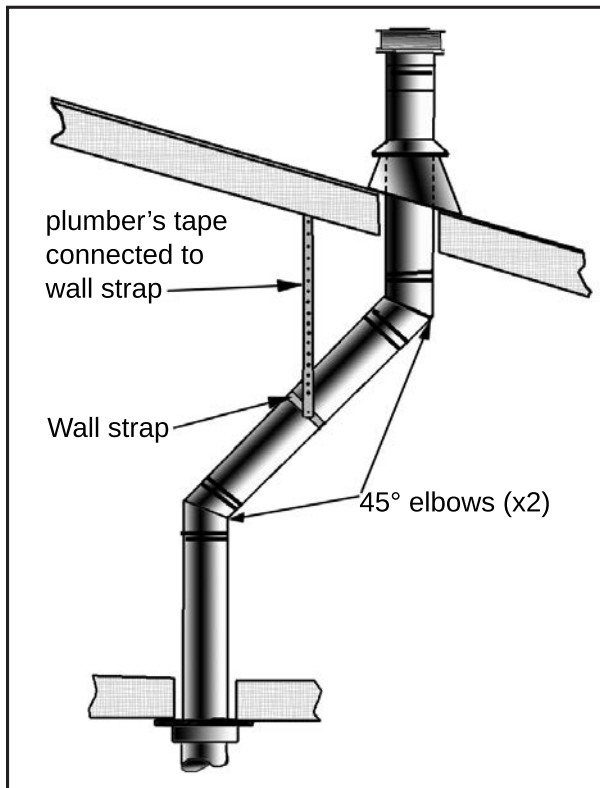

Figure 45: Use of Wall Straps.
- (a) If an offset is necessary in the attic to avoid obstructions, it is important to support the vent pipe every 3 feet (91 cm), to avoid excessive stress on the elbows, and possible separation. Wall straps are available for this purpose (see Figure 45).